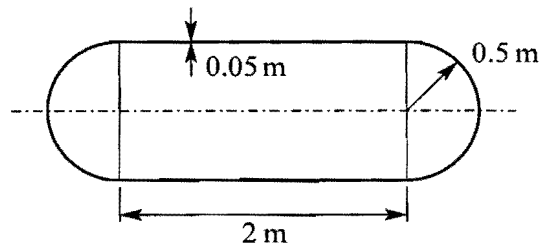

Figure 2
- * 6. A new submersible to reach the bottom of the Challenger Deep (see question 2) is shown schematically in Figure 2. It consists of a cylinder, of median diameter 1.0 m, length 2 m and wall thickness 50 mm, with two hemispherical ends of median diameter 1.0 m. It is made of a ceramic, Alumina. For Alumina, assume a Young's modulus of 390 GN/m^2 , and a Poisson's ratio of 0.33.